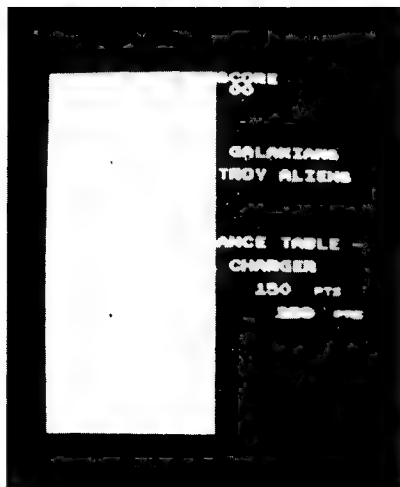
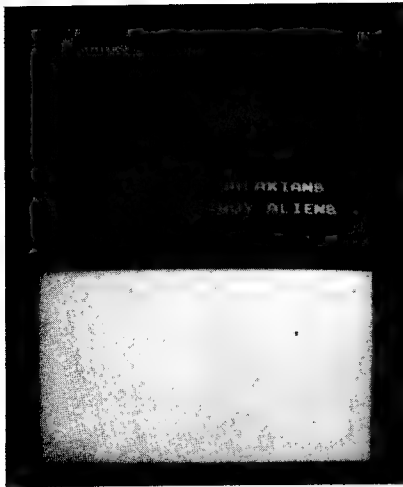

Fig. 2 Normal VB as seen with the video probe on pin 12 of IC6A
Fig. 6 Normal HB as seen with video probe on pin 12 of IC4A.
- 5) If there is no problem here, change the corresponding 74LS368, according to Fig. 2.
Figures 2 through 16 show the 8 basic types of data as seen by the video probe. As can be seen in Fig. 2, 3 and 4, the VB signals start out wide and few and get thinner and more numerous as the probe is moved from pin 12 to 14 of IC5A and IC6A. The above description applies to Figures 6, 7, and 8, substituting HB signals with VB signals and IC3A and IC4A with IC's 5A and 6A.